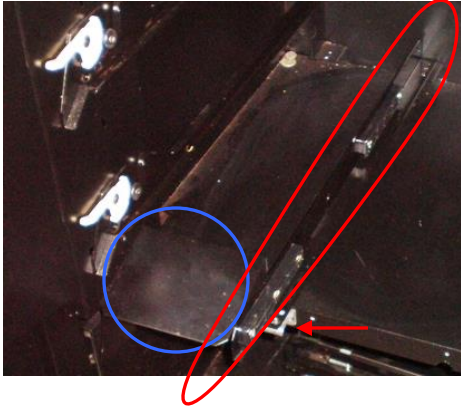

Figure 3A
4. Unscrew the existing rail from the left side of the machine and retain the screws for future use (Red Circle, Figure 3A).
5. Remove the block off plate to the left of the old rail; this may be discarded as it is not needed to complete the installation (Blue Circle, Figure 3A).
6. Remove the locking tab and retain tab and screws for possible future use (Red Arrow, Figure 3A)